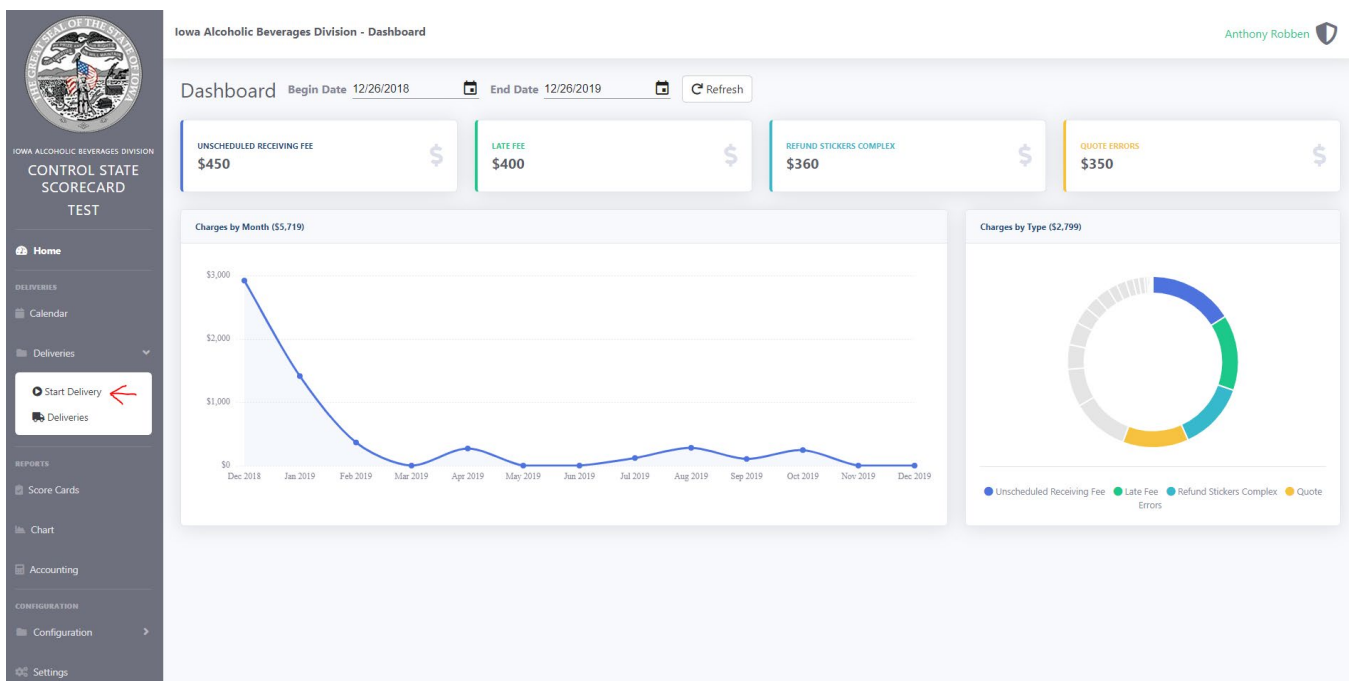

Figure 4; Start Delivery
- **Start Delivery (Not Available to Vendors)**: This button immediately prompts the user into a Delivery and Inspection output. First, the Delivery section appears as it is the parent and then followed by one or many inspections as many inspections can be tied to a single delivery (see Figure 4). Later, in Delivery Data Input we will go over how to input a delivery and what the fields represent.